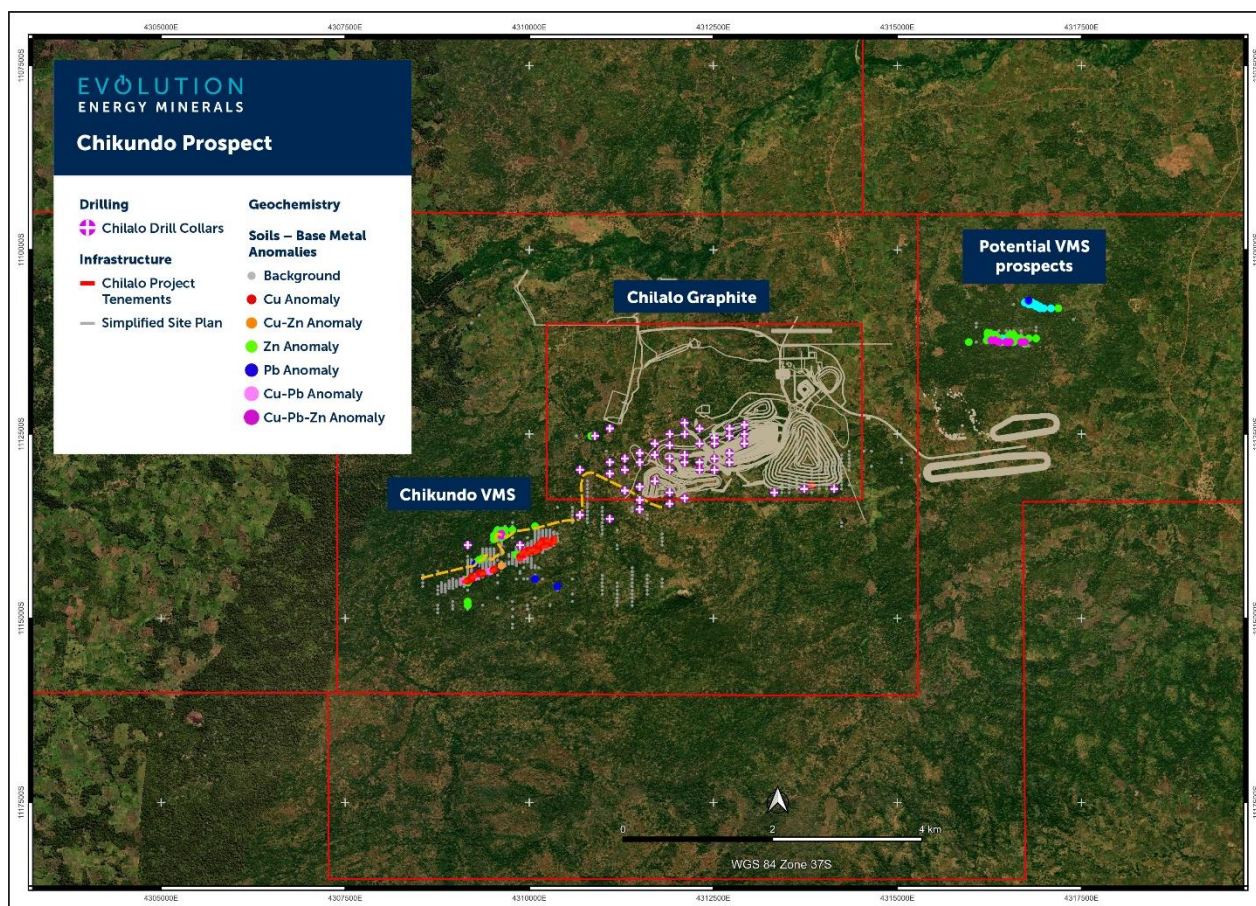

Figure 1: Location of the Chikundo Cu-Pb-Zn Prospect in relation to the Chilalo Graphite Project planned infrastructure
- Two other anomalies, one Cu-Pb-Zn and the other predominantly Pb-Zn, both located to the northeast of the Chilalo graphite project (**Refer Figure 1**), are also evident in soils data and will be progressively explored.
Diagrams	Sample locations are shown in figures 1 and 2 in this announcement.